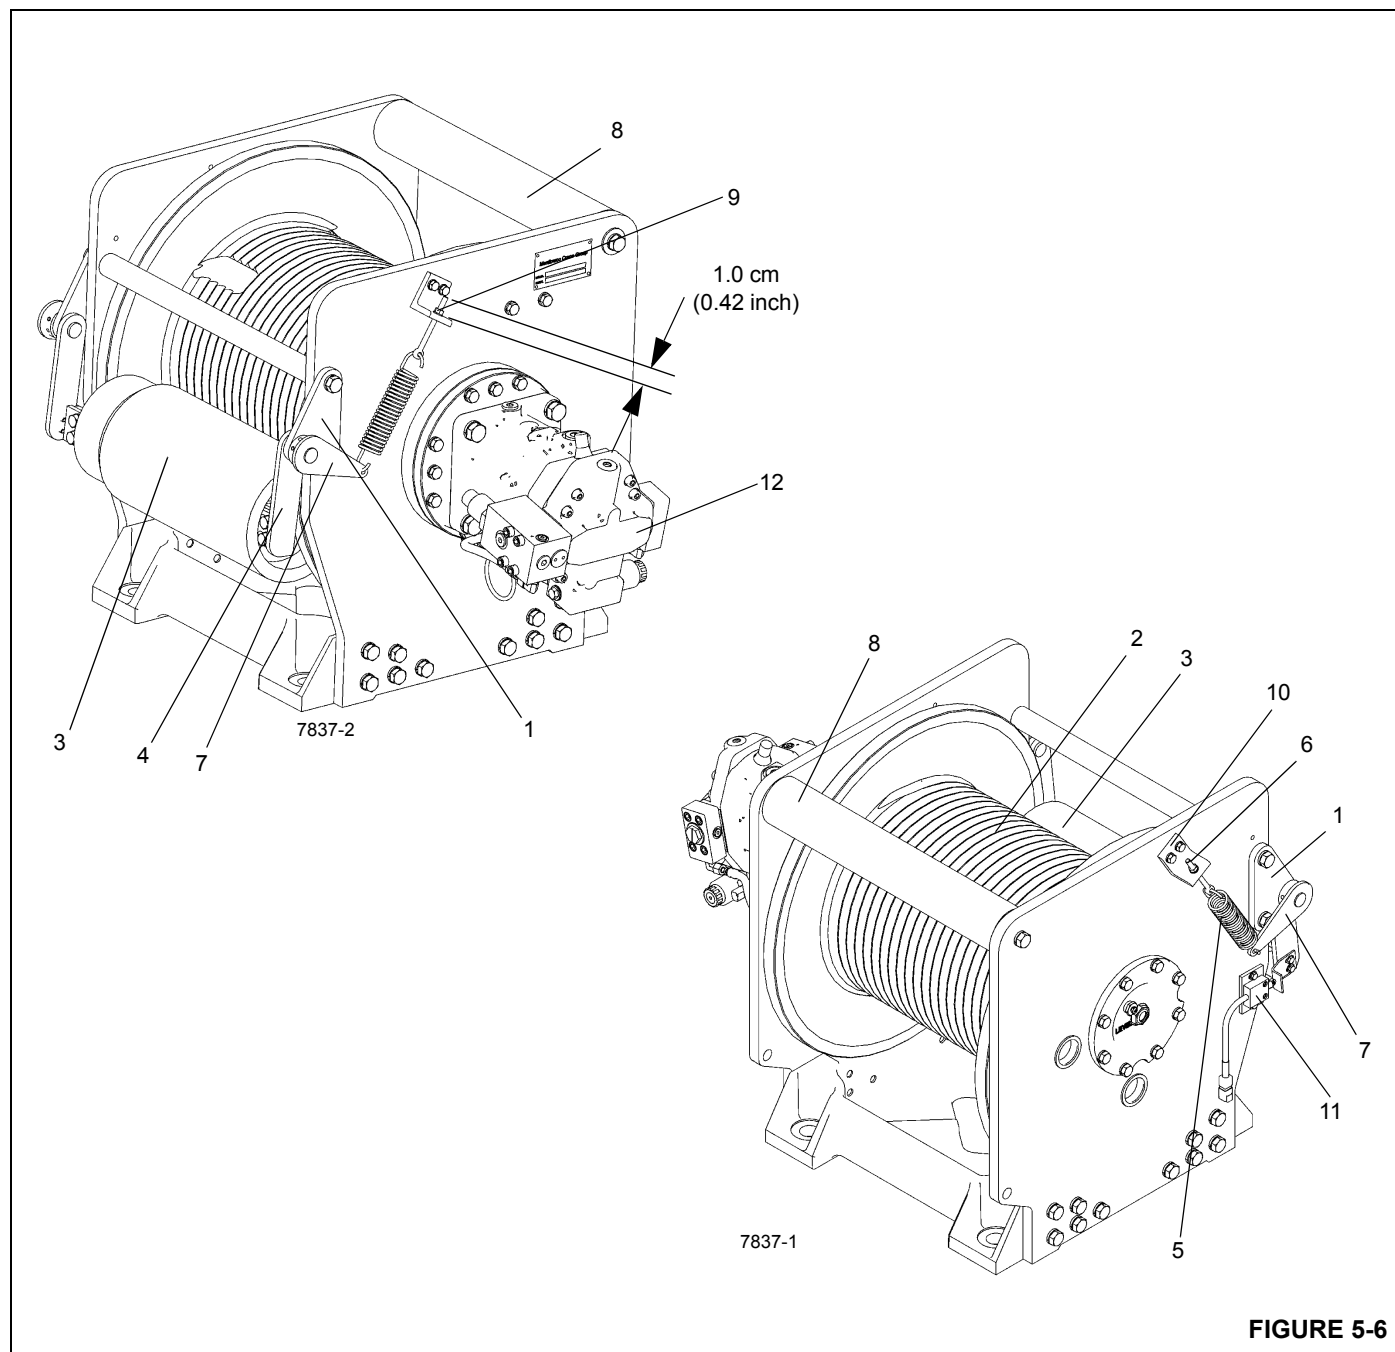

FIGURE 5-6
The main and auxiliary hoists (Figure 5-6) are each equipped with an idler drum on the forward side of the hoist. The main hoist idler drum is used to keep the hoist cable from coming in contact with the boom. When the crane is also equipped with an auxiliary hoist, the idler drum on the auxiliary hoist is used to keep the hoist cable from coming in contact with the main hoist. The cable follower is mounted on the forward side of its respective hoist. The cable follower applies a downward spring pressure against the cable onto the hoist drum, to ensure that the cable will be uniformly wound onto the hoist drum, and also prevent cable from jumping under abnormal line conditions.
1. Remove the bolt and end cap from the right side of the idler roller Figure 5-6.
1. Loosen the adjusting nuts and remove the tension spring and adjusting rod from both sides of the hoist Figure 5-6.